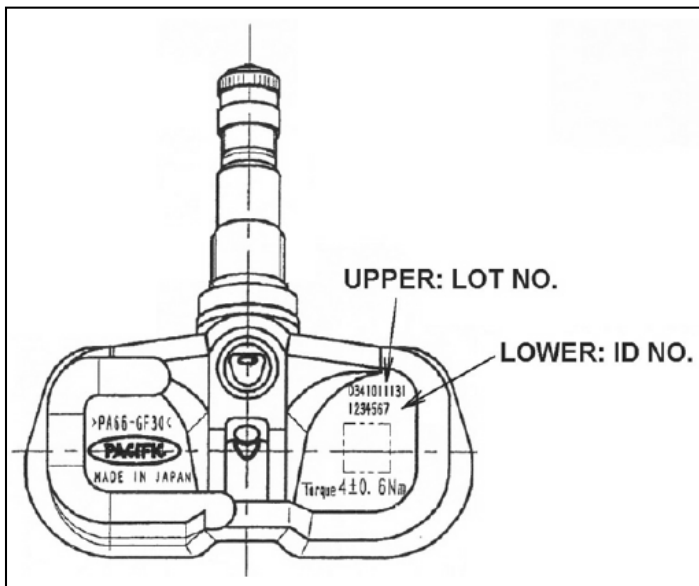

Figure 6a
- Insert the tire pressure monitor valve sub-assembly into the valve installation hole from the inside of the rim and bring the valve stem to the outside. Insert the tire pressure monitor valve sub-assembly so that "Manufactures" mark is visible. See Figure 6a and 6b.